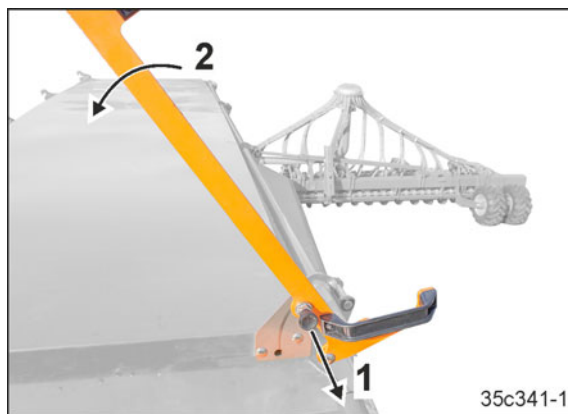

Fig. 259
3. Pull out the spring-loaded pin (Fig. 259/1) and swivel the lever (Fig. 259/2) downwards.